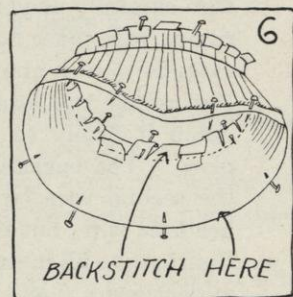

FIG. 6.
- a. Be sure the edge of the muslin in either the under facing or the top facing is brought over the edgewire and backstitched through both facings, as if it were binding the wire (see Figure 6).
- b. Be sure that the muslin at the headsize is brought over the top headsize wire and back-stitched over it, as if it were binding it (see Figure 6).
- c. Remembering Sections *a* and *b*, select the kind of facing that will be best to use for your model frame. Follow *either* Section (1) *or* Section (2).